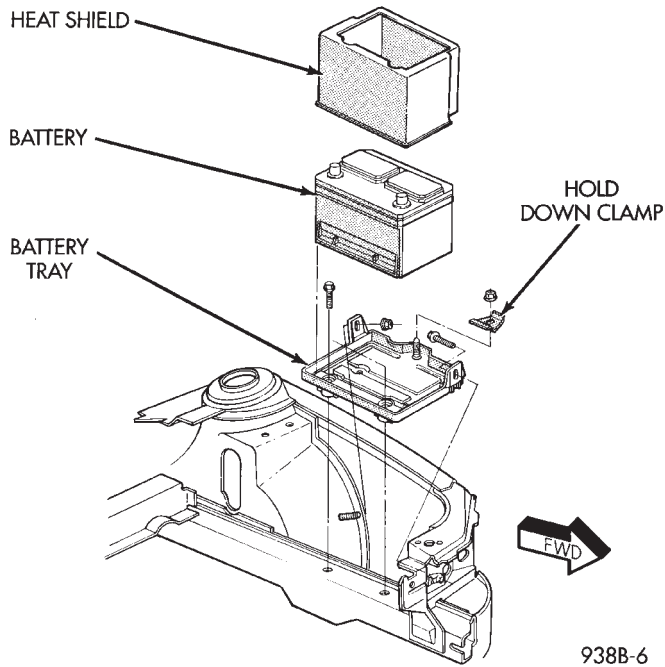

Fig. 21 Battery Removal
(1) Disconnect the battery terminals. Remove battery and battery tray (Fig. 21).